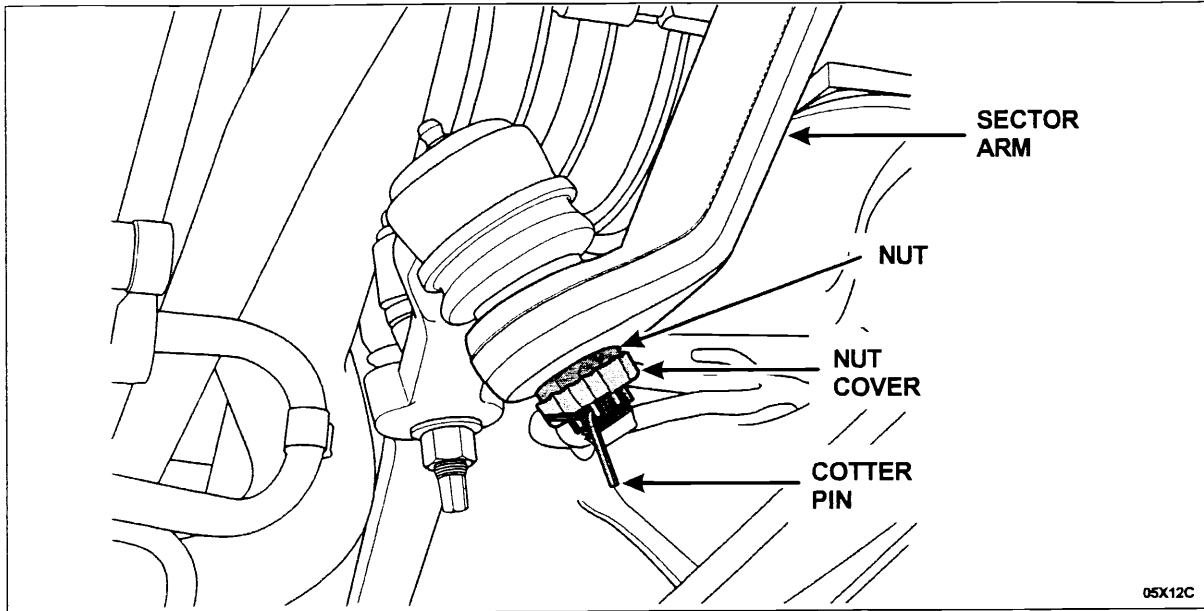

FIGURE 3
7. Remove the cotter pin, nut cover and drag link-to-sector arm nut. Discard the cotter pin. See Figure 3.